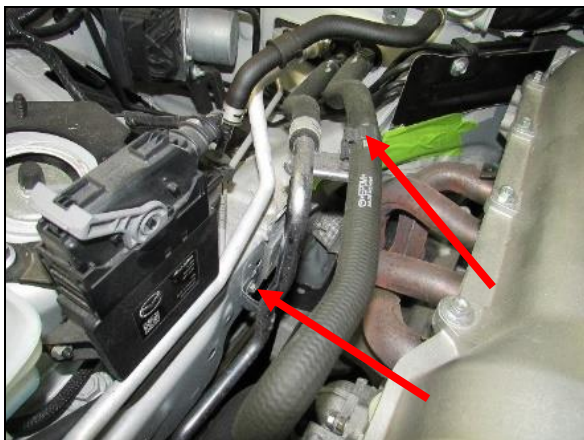

Figure 5
8. Disconnect the heater hose clamp that's on the bracket and remove the (x1) 10mm bolt head. Pull the heater hoses out of your way. This will give you better access when pulling the OEM manifold out (**Figure 5**).